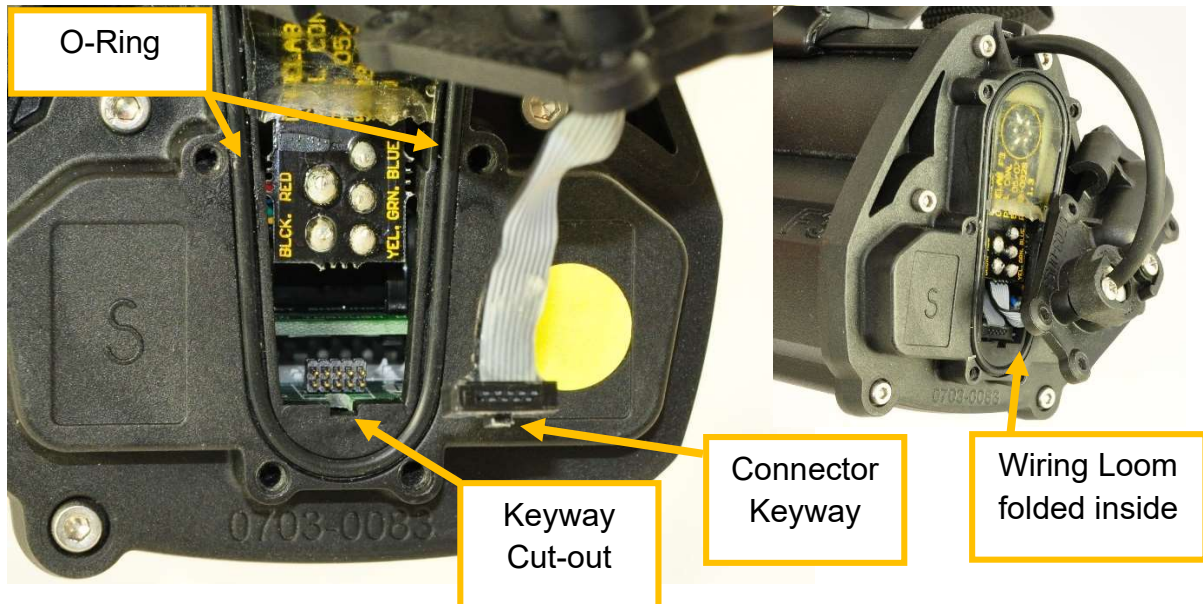

Figure 56: Connecting Wiring Loom to the Electronics Pack.
- Ensure that the keyway on the wiring loom plug is towards the bottom of the electronics pack then plug the wiring loom into the connector in the electronics pack. Shown in Figure 56.
- Fold excess wiring loom cable into the electronics pack above the plug. Shown in Figure 56.